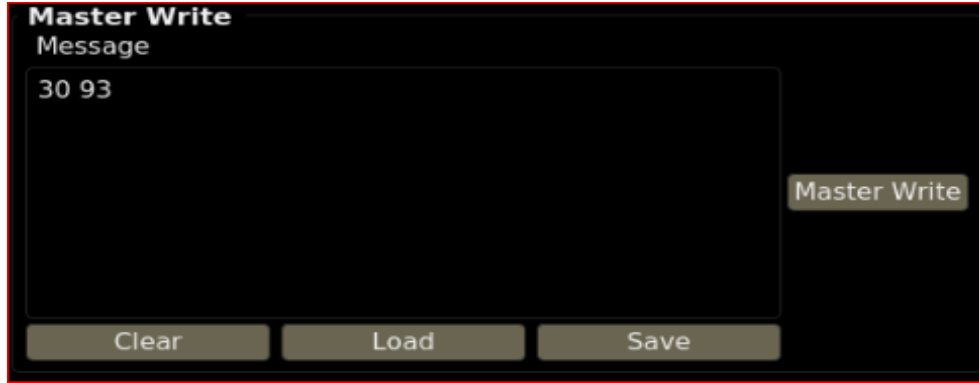

Figure 6.18. I²C Master Write to Write the Register Address
5. Enter the register address in the Master Write message box as shown in below Figure 6.18 to set the current register address. For an example, to read from 0x3093 register address, enter **30 93** in the message box and click the **Master Write** button.